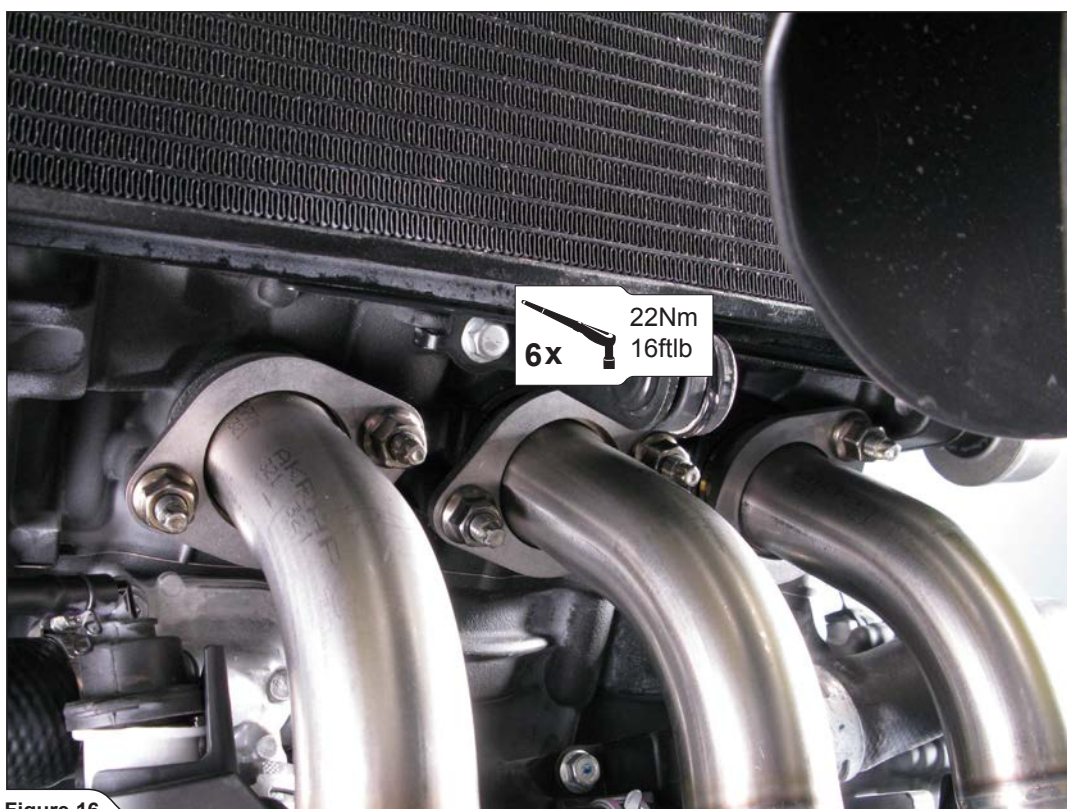

Figure 16
8. Tighten the header's flanges to specified torque (Figure 16).